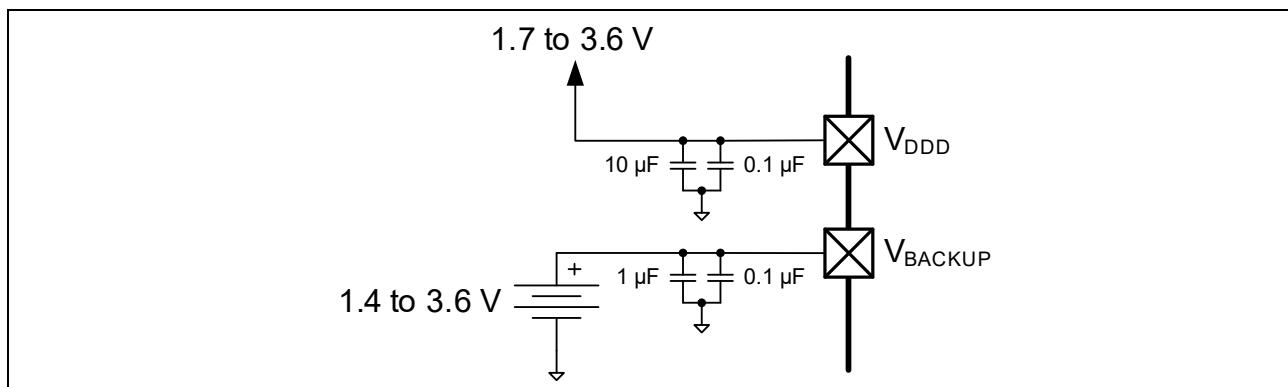

Figure 15 Separate Battery Connection to V_{BACKUP}
- V_{BACKUP} : the supply for the backup domain, which includes the 32-kHz WCO and the RTC. It can be a separate supply as low as 1.4 V, for battery or supercapacitor backup, as Figure 15 shows. Otherwise it is connected to V_{DDD} . It powers I/O port 0.